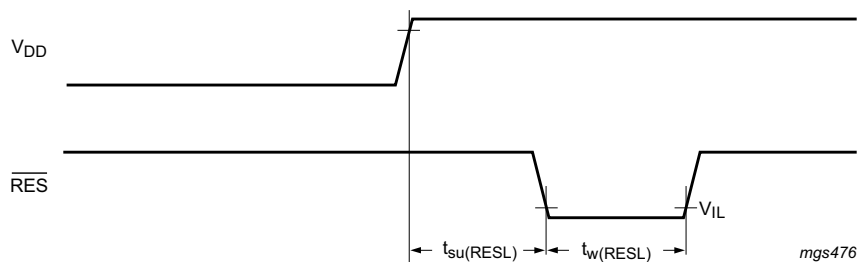

Fig 21. Reset timing
- [2] A reset is generated if $t_{w(RESL)} > 3$ ns (see Figure 21).